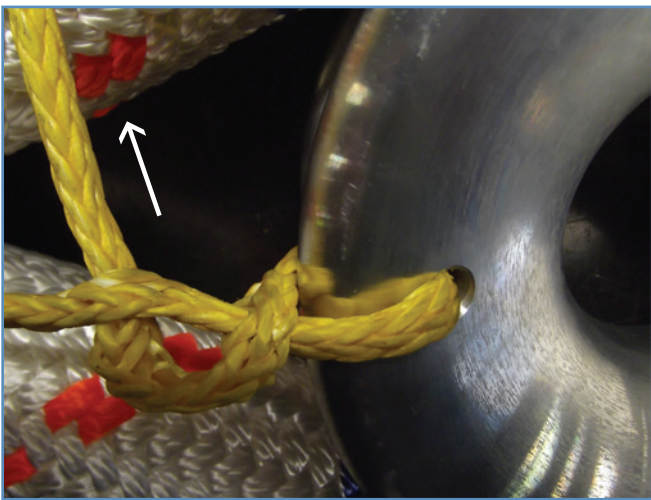

figure 18
- Pass one rope end through the rope body of the other end of the rope (figure 18).